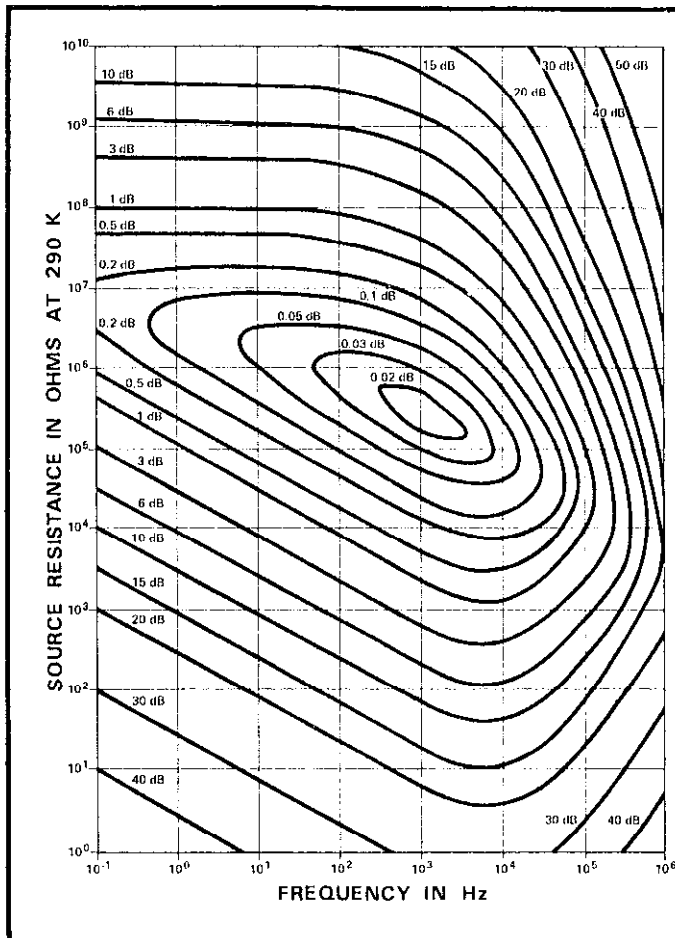

FIGURE 13a. Noise Contour Single-Ended Mode.
i. Noise Figure Contours. The noise figure for an amplifier can be expressed in terms of a set of data for all possible operating conditions. One way to graphically portray this data is the noise figure contour. The contours are essentially the loci of data points for a specified noise figure as a function of source resistance and frequency of interest. For example, the Noise Contour shown in Figure 13a shows a locus of data points for which the noise figure is .05 dB. One set of conditions which constitute a data point on this contour would be: